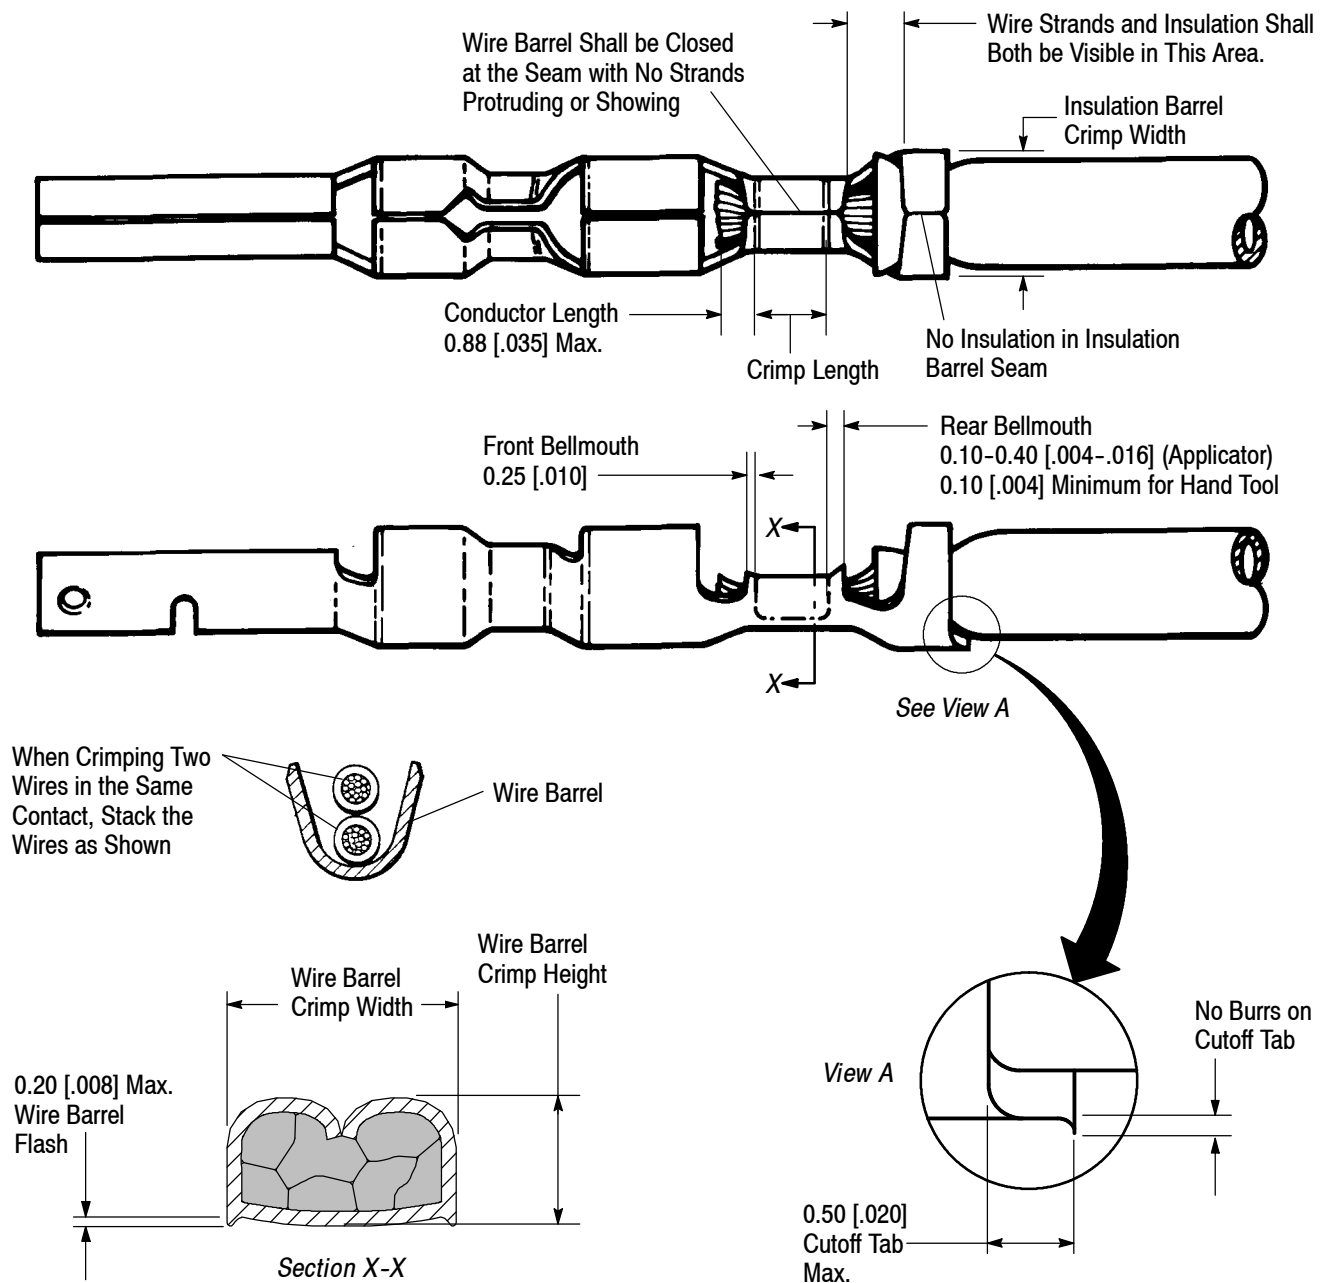

Figure 3
The contact must be crimped onto the wire according to instructions packaged with applicable tooling. After crimping, the contact should appear as shown in Figure 3. A typical pin contact is shown as it should appear after crimping; these requirements apply equally to the socket contact.
For optimum crimp effectiveness, the crimp must be within the area shown in Figure 3 and must meet the crimp dimensions provided in Figure 2. Effective crimp length shall be defined as that portion of the wire barrel, excluding bellmouth(s), fully formed by the crimping tool. Instructions for adjusting, repairing, and inspecting tools are packaged with the tools. See Section 5, TOOLING.
Front and rear bellmouths shall be evident and conform to the dimensions given in Figure 3.
The cutoff tab shall be cut to the dimensions shown in Figure 3.
The cutoff burr shall not exceed the dimensions shown in Figure 3.
The wire barrel flash shall not exceed the dimensions shown in Figure 3, Section X-X.
The insulation barrel shall grip the insulation firmly. A slight cut in the insulation by the insulation barrel is permissible as this causes no problems in actual use. Insulation crimp shall comply to width and height provided in Figure 3.
1. The carrier cutoff tab length shall not exceed the dimensions given in Figure 3.